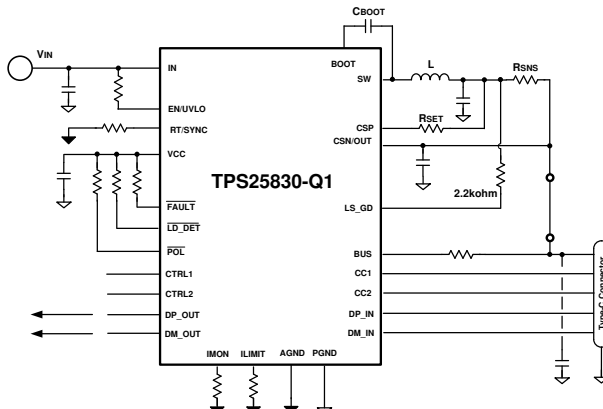
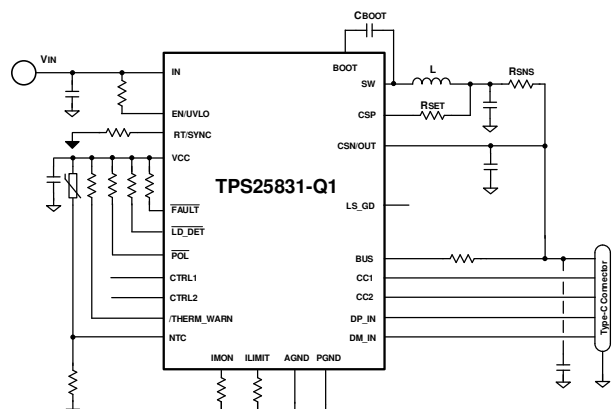

Figure 10-18. TPS25830-Q1 Buck Average Current Limit
Figure 10-19. TPS25831-Q1 Buck Average Current Limit
- Buck Average Current Limit, Figure 10-18, Figure 10-19: